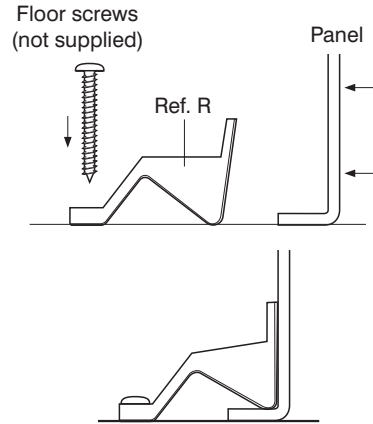

Figure 12
12. Pre fit the panel ensuring that it fits correctly. A relief on the panel ends may be required to clear skirting boards etc. Mark a line along the front of the panel on the floor. Remove panel and fix the plastic panel clips onto the floor/wall(s) (Figure 12). The front of the block at the floor should be 3mm back from the marked line.